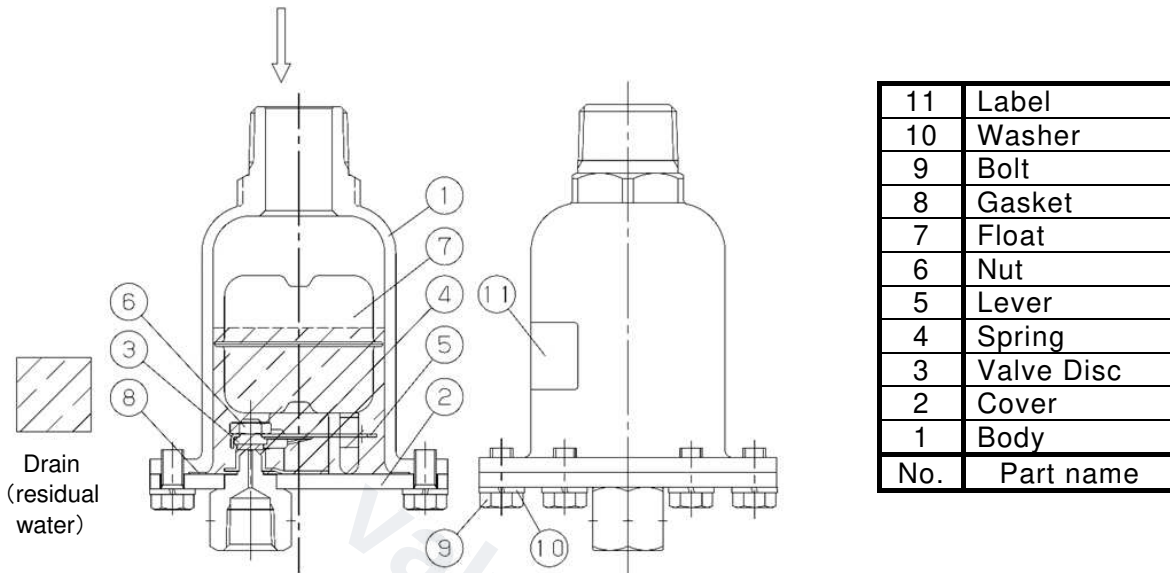

Fig2.1 Operating Diagram
3. After the condensate is discharged, the liquid level drops, buoyancy of the float [7] is decreases and valve disc [3] closes. At this point, condensate (residual water) accumulates as shown in Figure 2.1.
* As condensate (residual water) accumulates as shown in Figure 2.1, freezing may lead to product damage.